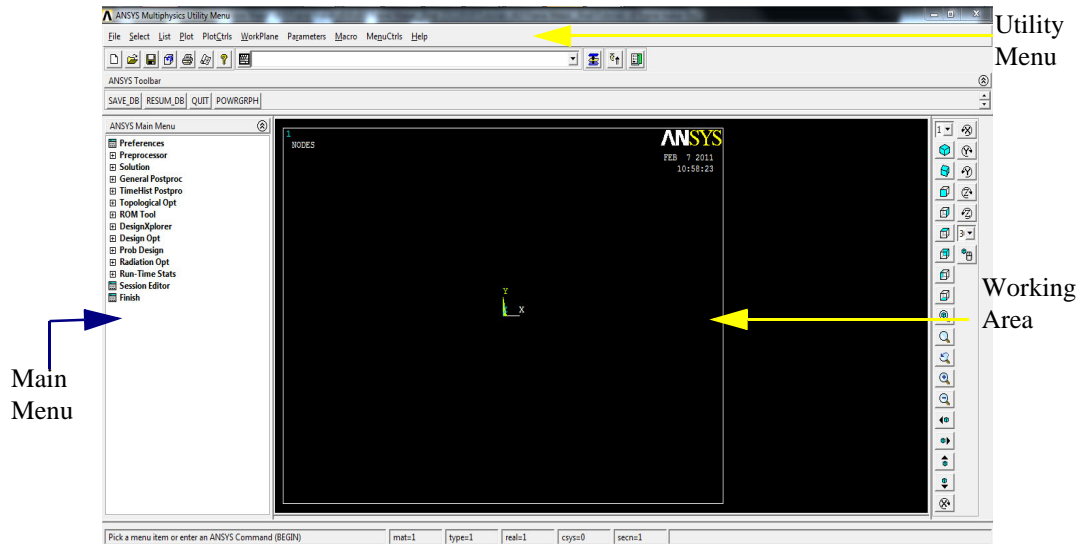

Figure 161: ANSYS Interface.
- ☑ Launch **ANSYS** by clicking **Start > All Programs > ANSYS 12.1 > Mechanical APDL (ANSYS)**. The main window will get displayed as shown in (Figure 161).